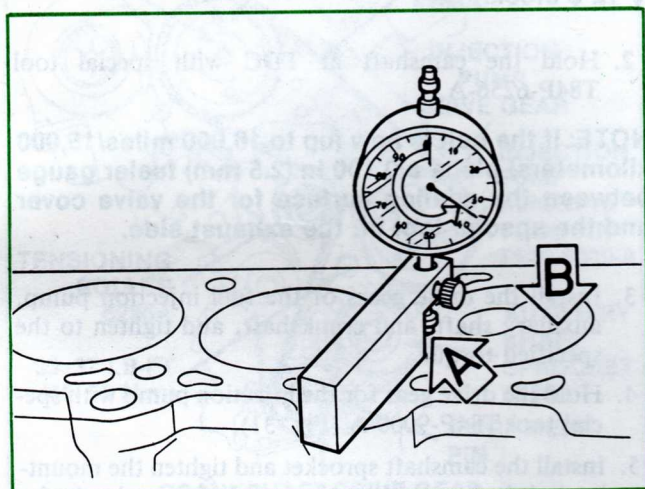

Figure 28. Measuring Points on the Piston
2. Apply dial indicator at measuring point A (Fig. 28) on the cleaned piston and find the highest point by turning the crankshaft to bring the piston to TDC. Note the value on the dial indicator.
3. Repeat Step 2 at measuring point B (Fig. 28).